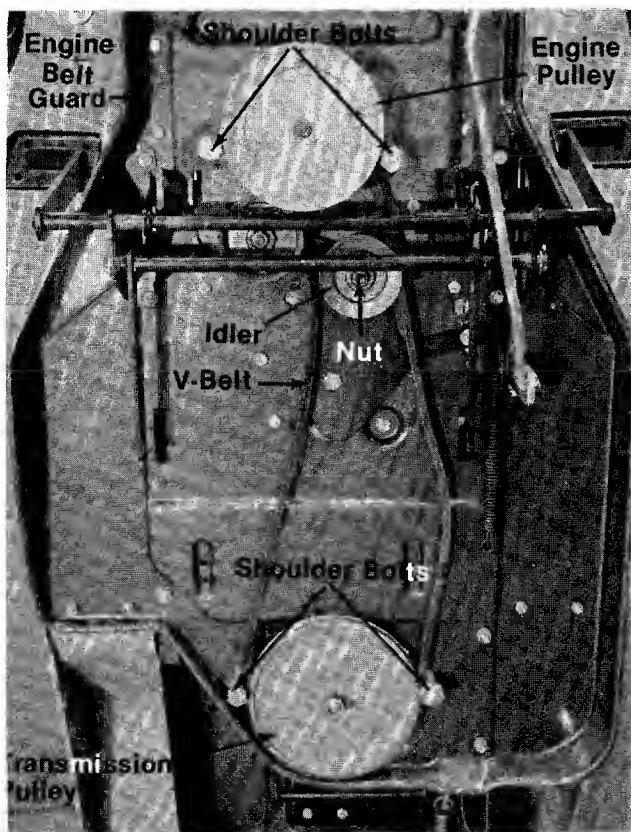

FIGURE 49.
2. Remove the two shoulder bolts by the engine pulley. See figure 49.
5. Remove the two shoulder bolts from the engine pulley. See figure 49.
8. Remove the engine belt guard. See figure 49.
9. Remove the nut on the V-idler and slide the idler off the bracket. See figure 49.
10. Remove the two shoulder bolts by the transmission pulley. See figure 49.